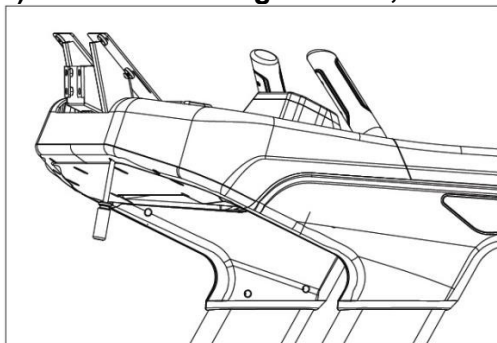

Figure 4.9.1
6) As shown in Figure 4.9.1, remove the 18 screws from the upper bracket and remove the bracket cover.